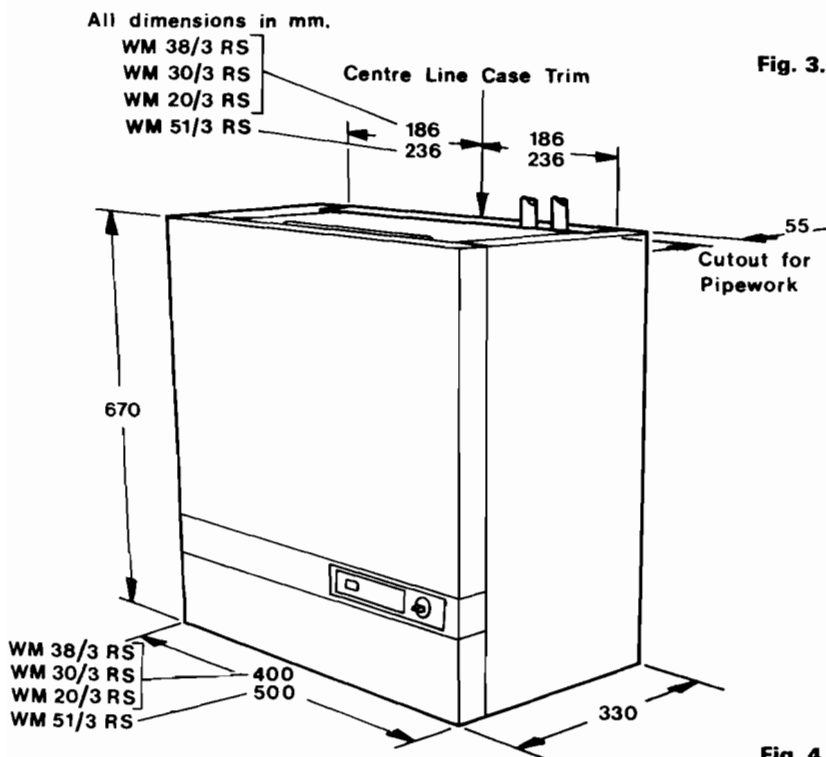

Fig. 1. The Unit
- (ii) The pipework will run through the cutouts provided in the case when it is fixed. The overall space available for pipes is given in Fig. 1.